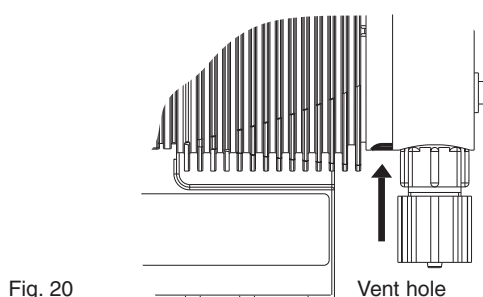

Fig. 20
- ▶ Check that the liquid end is generally watertight (especially vent hole! See fig. 20)
- ▶ Loosen the liquid end (2) and the top plate (4) from the pump housing (6) (loosen only!).
- ▶ Hold the housing (6) in one hand and with the other, clamp the diaphragm (3) between the liquid end (2) and the top plate (4); release the diaphragm (3) from the drive spindle with a light anticlockwise turn of the liquid end (2) and top plate (4).
- ▶ Unscrew the diaphragm (3) completely from the drive spindle.
- ▶ Remove the top plate (4) from the housing (6).
- ▶ Check the condition of the safety diaphragm (5) and replace if necessary.
- ▶ Push the safety diaphragm (5) only as far onto the drive axis until it lies flat on the pump housing (6) – no further!
- ▶ Screw the new diaphragm (3) carefully up to the stop on the drive axis – this must be exact to ensure correct metering!
- ▶ Screw the diaphragm (3) tight once more.
- ▶ Position the top plate (4) on the pump housing (6).
- **The leakage hole must point downwards when the pump is fully assembled (see fig. 20).**
- **Position the top plate (4) correctly on the pump housing (6). Do not distort the top plate on the pump housing, otherwise the safety diaphragm (5) will not fit.**
- ▶ Lay the diaphragm (3) into the top plate (4).
- ▶ Hold the top plate (4) and screw the diaphragm (3) in a clockwise direction until it is firmly in position (you will feel the resistance of the return spring).
- **Do not overtighten the diaphragm (3) (particularly on type 1601).**
- **The top plate (4) must remain in position to prevent the safety diaphragm (5) from distorting.**
- ▶ Place the liquid end (2) with the screws (1) on the diaphragm (3) and the top plate (4) (the priming connector must point downwards once the pump is fully assembled).
- ▶ Screw on screws (1) lightly and tighten (starting torque, see below).